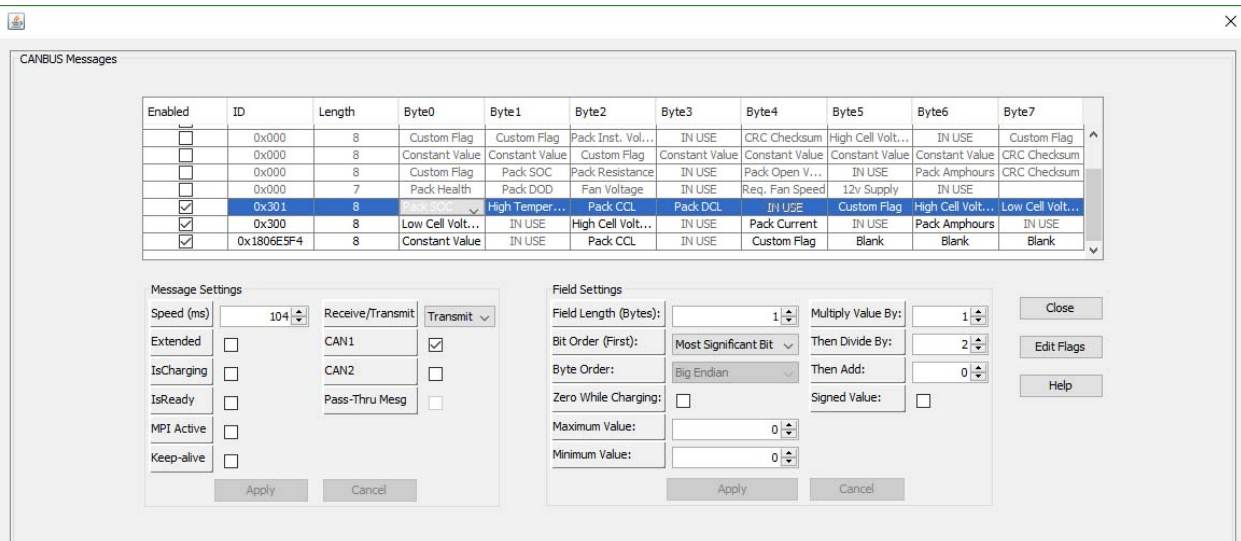

Fig. 20
3. Make sure that the Message and Field Settings for **Pack SOC** are the same as in (Fig 20).